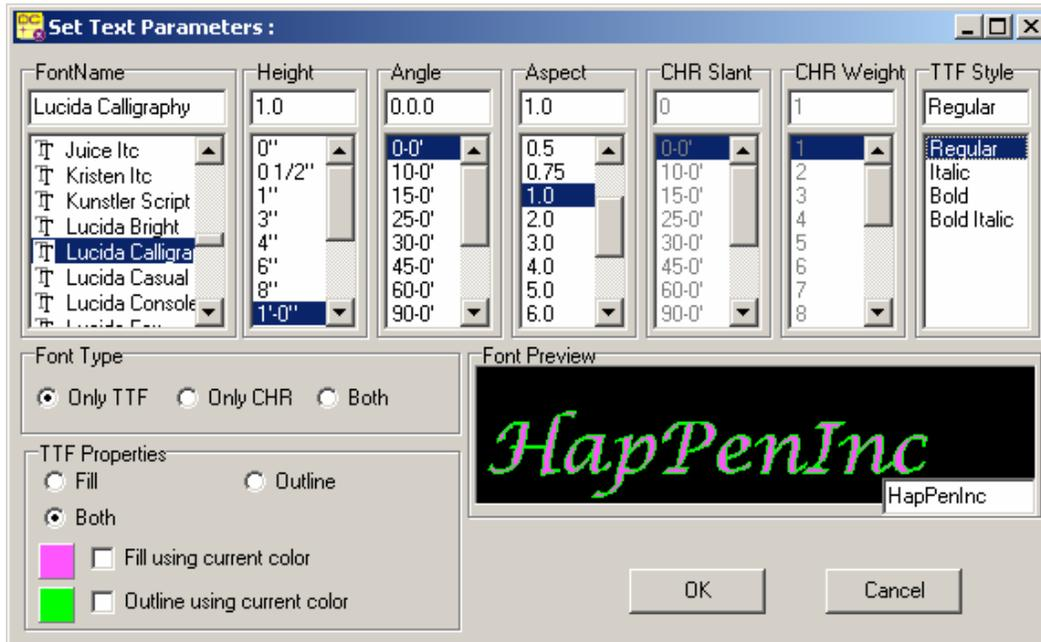

Figure 13.2: Control the appearance of TrueType fonts
3. Choose an arrowhead style. Click on Style in the Arrows menu. A list of five arrowhead styles is displayed. (See Figure 13.2 for examples.)
8. Use the value menu or type a number for the aspect ratio, and press . (See Figure 13.2 for examples of aspect settings.) An ANSI-standard arrowhead has an aspect ratio of 6.